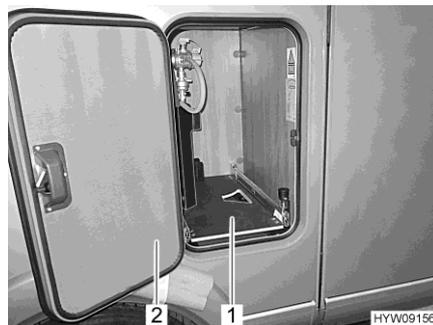

Fig. 117 Gas bottle compartment
- Open flap (Fig. 117,2) for the gas bottle compartment.
- Pull out the gas bottle compartment pull-out (Fig. 117,1) until the knob engages again. Now, the gas bottle compartment pull-out is locked in this position.